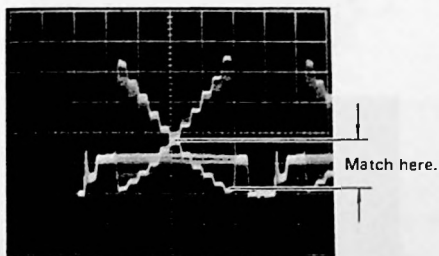

Fig. 4-4-30
- Connect the oscilloscope to TP213 (R) and TP214 (Y_L).
- Overlay the R signal and Y_L signal on the oscilloscope, and adjust R.GAIN VR228 so that the signal level between the black chip (zero step) and fifth step (crossing step) of the gray scale waveform match. (Fig. 4-4-30)